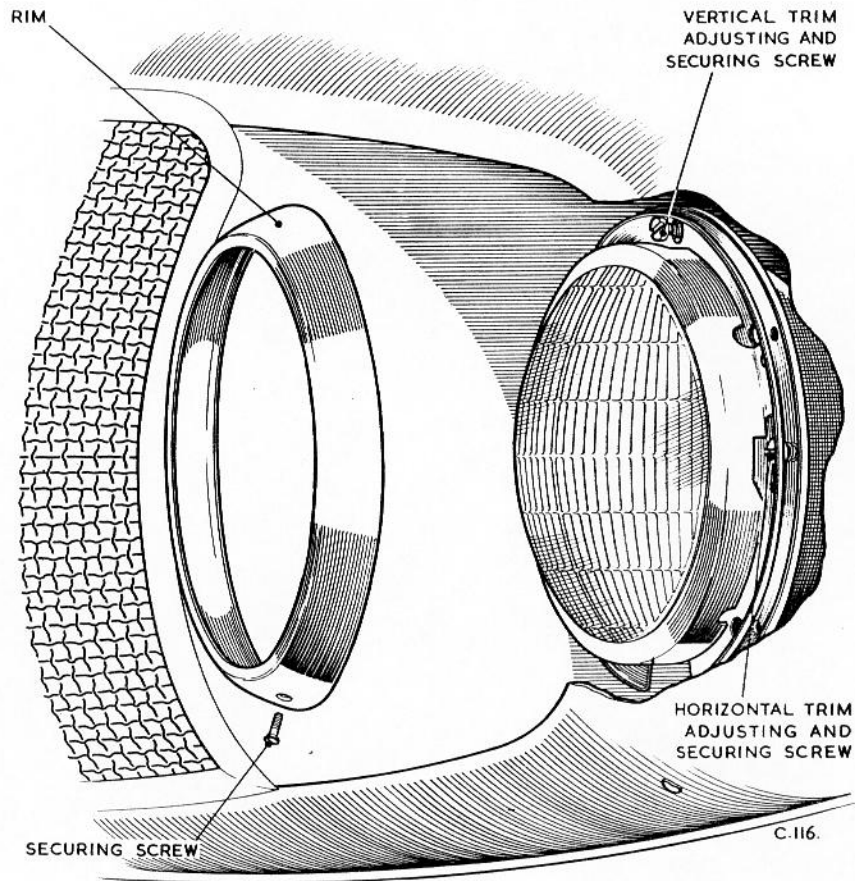

Fig. 4 Light unit with rim removed.
Working through the aperture in the lower body panel, loosen the securing screw at the bottom of the lamp rim then lift out the rim, see Fig.4. Press on the light unit, twist it anti-clockwise and draw the light unit forward clear of the lamp shell. Detach the floating adaptor socket from the back shell; then withdraw the light unit clear of the car.
4. To raise the beam, screw the vertical trim adjusting screw clockwise and vice versa, see Fig.4.